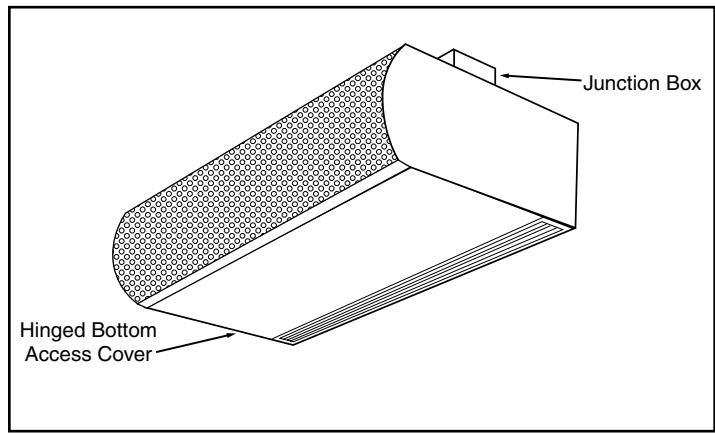

FIGURE 7 - Electrical Connections
- A. A separate line voltage supply with a suitable branch circuit protection device should be run directly from the main electrical panel to the unit. A disconnect switch for each branch circuit is a required part of this installation. See the voltage label on the unit for circuiting and total electrical load. The wiring diagram is located in the junction box. **See Figure 7.**
The heater circuit may be controlled by a remote thermostat or manually through the Intelliswitch™ located on the discharge side of the air curtain. Overheating protection is provided by auto reset thermal cutouts built into the heater coil assembly (see the wiring diagram located in the junction box). **See Figure 7.**